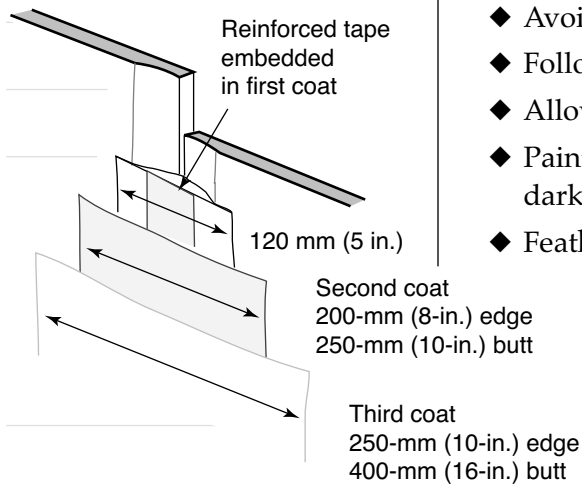

FIGURE 66
- ◆ Feather butt joints wider than edge joints (see Figure 66).